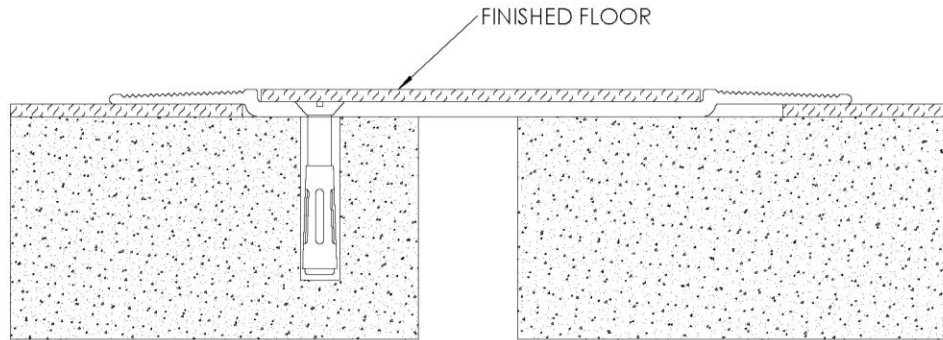

FIGURE 4
4. Finished flooring (by others) can now be installed in the middle-recessed area of the cover plate. **See Figure 4.**